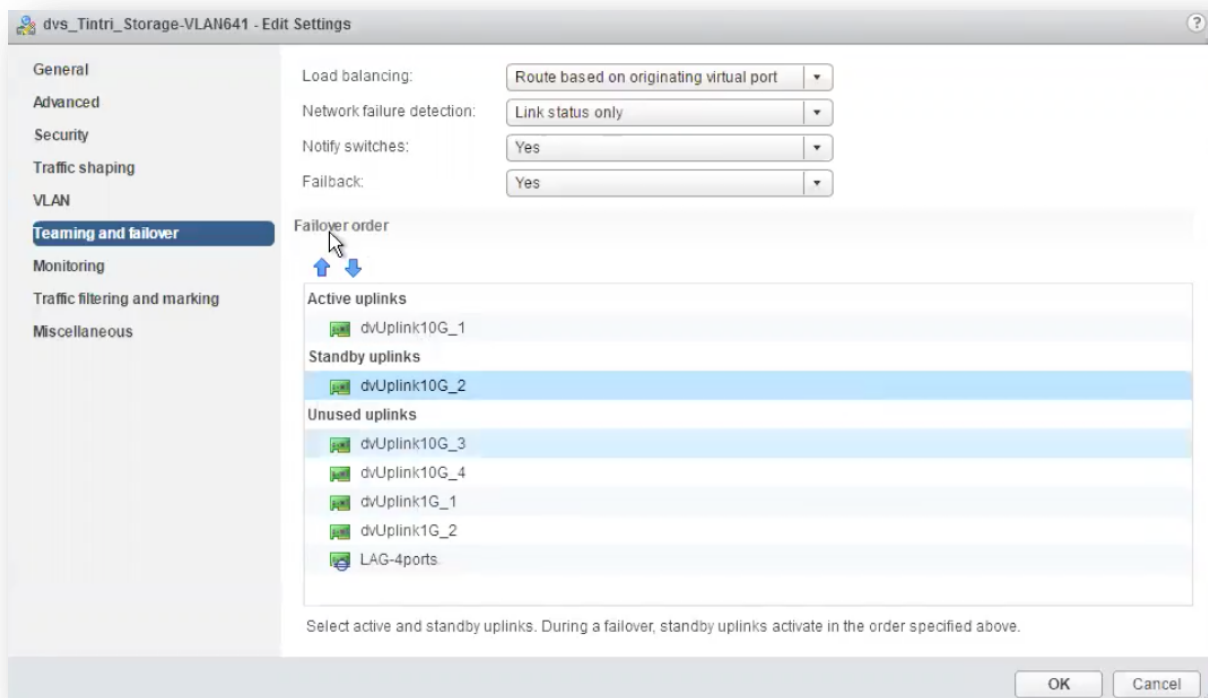

Figure 16 – Storage Teaming configuration using a dvSwitch, as seen in vSphere Web Client
12. Configure any other uplinks so that they are unused as shown in the left side of Figure 15 (full client) and Figure 16 (web client).